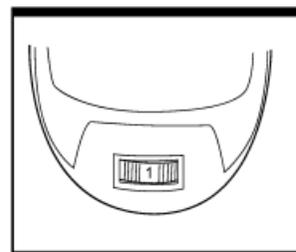

Fig. 3
3. VARIABLE SPEED CONTROL SWITCH (Fig. 3)
(Fig. 3)